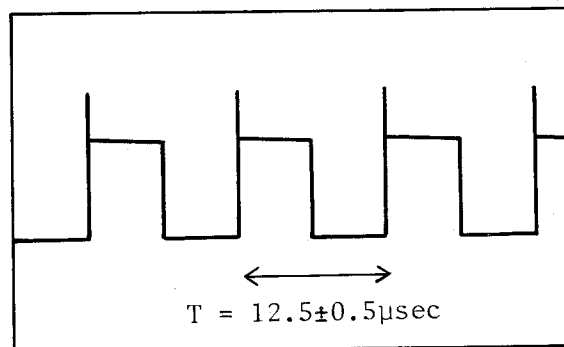

Figure 1-4. Switching Waveform
7. Adjust A1R19 (**FREQ-ADJ**), until the period (T), of the waveform, is 12.5 μ s \pm 0.5 μ s, as shown in Figure 1-4.